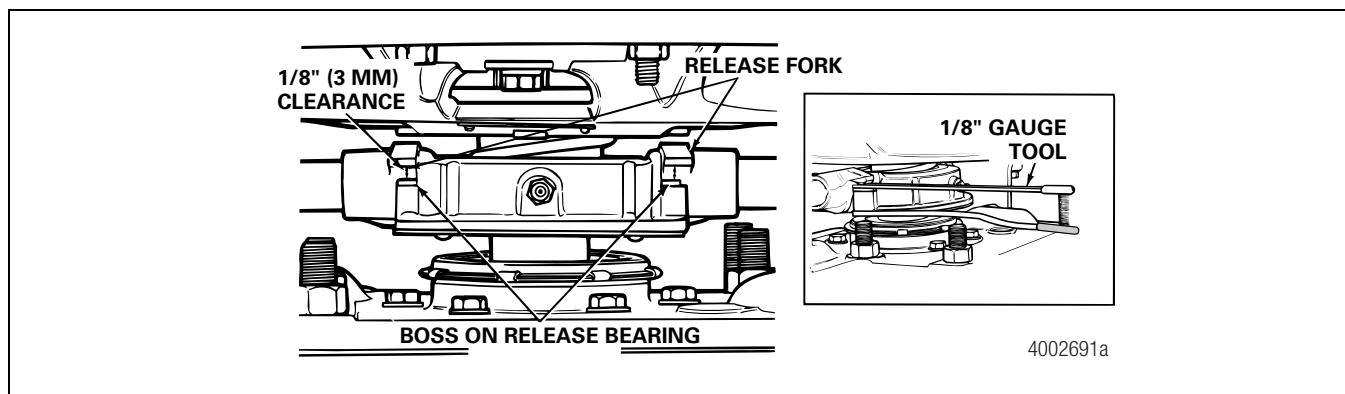

Figure 3.11
3. **Release Fork Clearance.** Verify that there is a distance of 0.105-0.145-inch (2.67-3.68 mm) between the fork and the boss of the release bearing. If the distance is not 1/8-inch (3 mm), adjust the linkage. Figure 3.11.